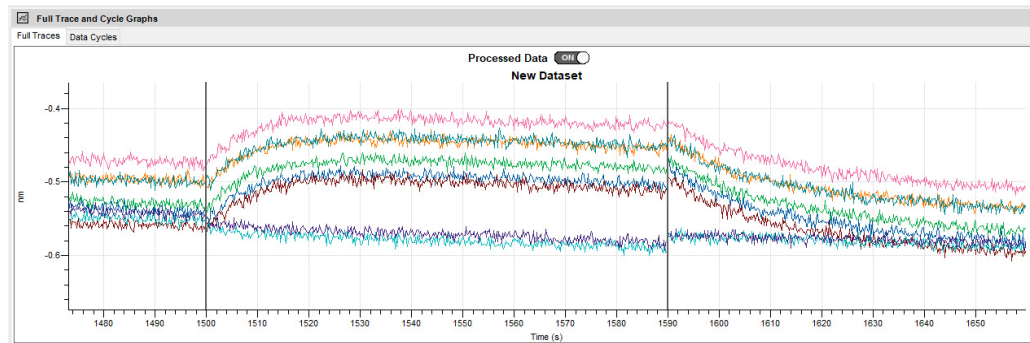

Figure 2-23: Show Zebra Stripe Deselected
- **Show Zebra Stripe** - Checking or deselecting this box shows or hides (Figure 2-23) the alternating white and grey horizontal rows on the graph.